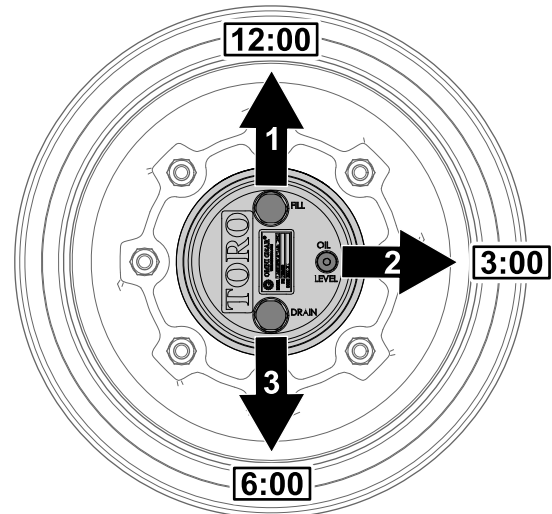

Figure 66
1. Park the machine on level surface, position the wheel so that the fill plug is at the 12 o'clock position, the check plug is at 3 o'clock position, and the drain plug is at the 6 o'clock position (Figure 66).
2. Remove the check plug at the 3 o'clock position (Figure 66).
1. Park the machine on level surface, position the wheel so that the fill plug is at the 12 o'clock position, the check plug is at 3 o'clock position, and the drain plug is at the 6 o'clock position; refer to Figure 66 in Checking the Planetary Gear-Drive Lubricant (page 58).